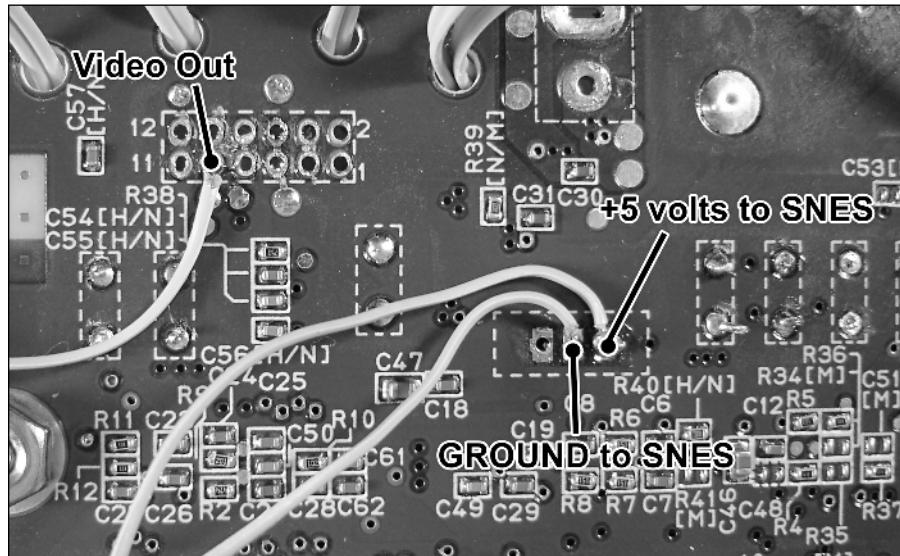

FIGURE 11-29: Connecting video, +5 volts, and GROUND to the SNES.
4. Connect the *+5 volts to SNES* and *GROUND to SNES* wires from the control board to the SNES as indicated in Figure 11-29. These were labeled in the *Making and installing the control board* section previously in this chapter.